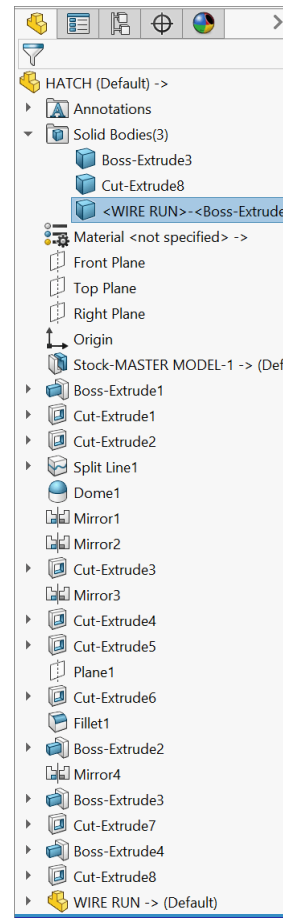

Fig. 131
Step 1. Expand Solid Bodies folder in the Feature Manager and click **Wire Run** body to select, **Fig. 131**.